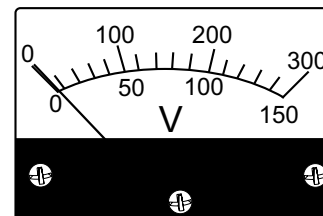

Figure 70. AC Voltmeter (Zero Volts)
8. Verify that the AC voltmeter (Figure 70) on the welder-generator reads zero volts.